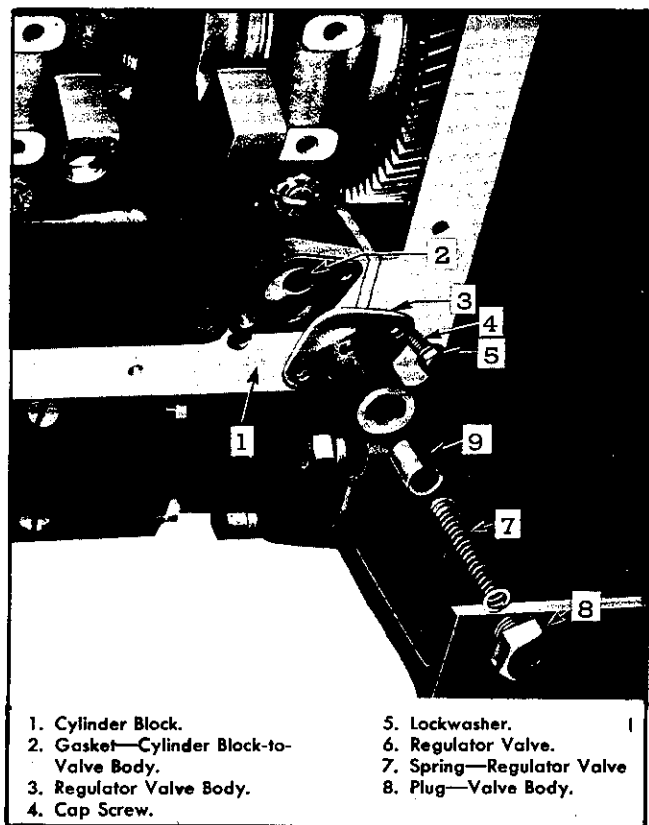

Fig. 16—Lubricating Oil Pressure Regulator Valve and Relative Position of Parts.
**Description**—Stabilized lubricating oil pressure is maintained within the engine at all speeds, regardless of oil temperature, by means of a regulator valve located at the rear end of the cylinder block and at the termination of the oil gallery, as shown in Fig. 16.
**Assemble Oil Regulator Valve**—All parts having been cleaned and inspected, refer to Fig. 16 for relative location and position of parts and assemble the lubricating oil regulator valve as follows:
1. Apply some clean engine oil to outside of valve (6) and position valve in valve body (3) with open end of valve towards threaded end of valve opening.
2. Put spring (7) inside valve (6), and while compressing spring, start plug (8) into valve body. Tighten plug.
**Attach Oil Regulator Valve Assembly to Cylinder Block**—After assembly, and by reference to Fig. 16, the lubricating oil regulator valve may be attached to the cylinder block as follows:
2. Affix new gasket (2) to regulator valve body so that opening in gasket registers with hole in body.
3. Attach body to cylinder block with two bolts (4) and lockwashers (5). Draw body tight against gasket.
This by-pass type filter (continuously filtering a small portion of the lubricating oil during engine operation) has a cleaning element consisting of a group of circular filter packs as shown in Fig. 16. Each pack is made up of a quantity of thin paper discs stacked on coiled springs fastened to the division plate. The springs retain the discs under compression, restricting the flow of oil to the extent that only the clean oil passes between the discs, the impurities being deposited on the outer edges of the discs.